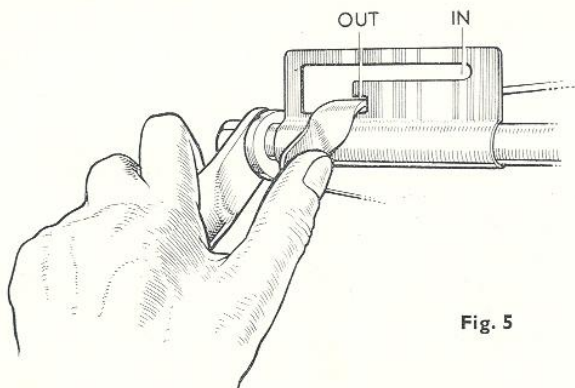
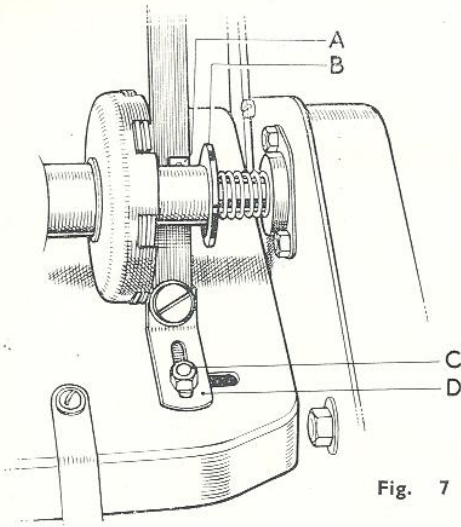

Fig. 5
Fig. 7
4. See that the clutch lever (Fig. 5) is in the "OUT" position.
MOST IMPORTANT. Do not attempt this operation unless the mower clutch lever (Fig. 5) is in the "OUT" position.
Adjust the clutch while the clutch operating lever (Fig. 5), is in the "IN" position. Undo the nut (C, Fig. 7) securing the pivot pin bracket and move the bracket along the slot in engine platform until there is approximately $\frac{1}{2}$ " of free movement of the clutch lever in the gate (Fig. 5). Tighten bracket nut firmly.